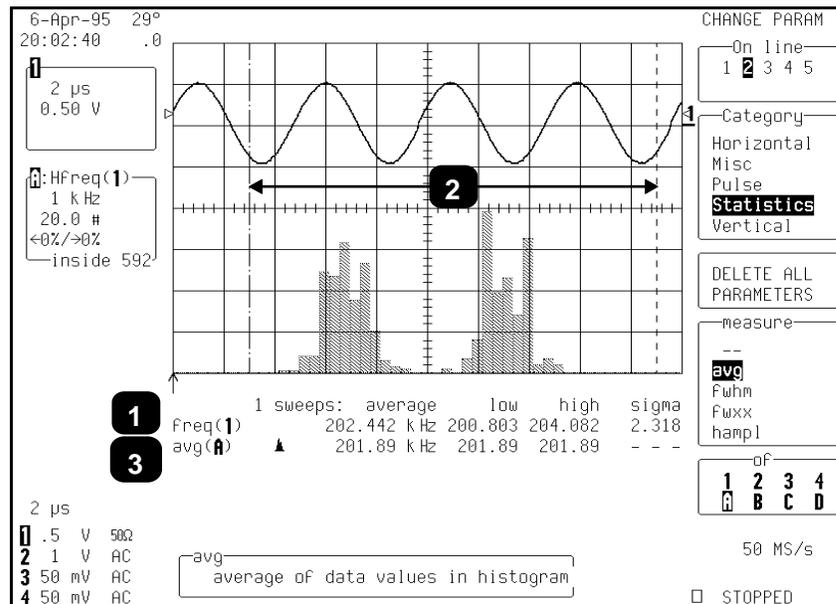

Figure 13-2.
As shown in Figure 13-2, up to five parameters can now be selected, each displayed on its own line below the grid. Categories are provided for related groups of parameter measurements. The freq measure parameter from the "Cyclic" category for Trace 1, previously selected, is displayed on Line 1 as **freq(1)** (Item 1). The **avg** measure parameter from the "Statistics" category for Trace A is displayed on Line 2. This category provides histogram parameters, while avg offers the mean value of the underlying measurements for the Trace A histogram section within the parameter cursors (2), shown as "avg(A)" in 3. Additional parameter measurements can be selected from "Category" and "measure". No parameters have been selected for Lines 3 to 5.